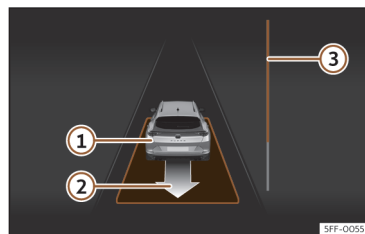

Fig. 162 On the instrument panel display: driving off from perpendicular parking.
- Reverse until the continuous ParkPilot signal sounds; **OR:** reverse until the instrument panel display shows the forward indication. The progress bar >>> **Fig. 162**  indicates the distance to cover.